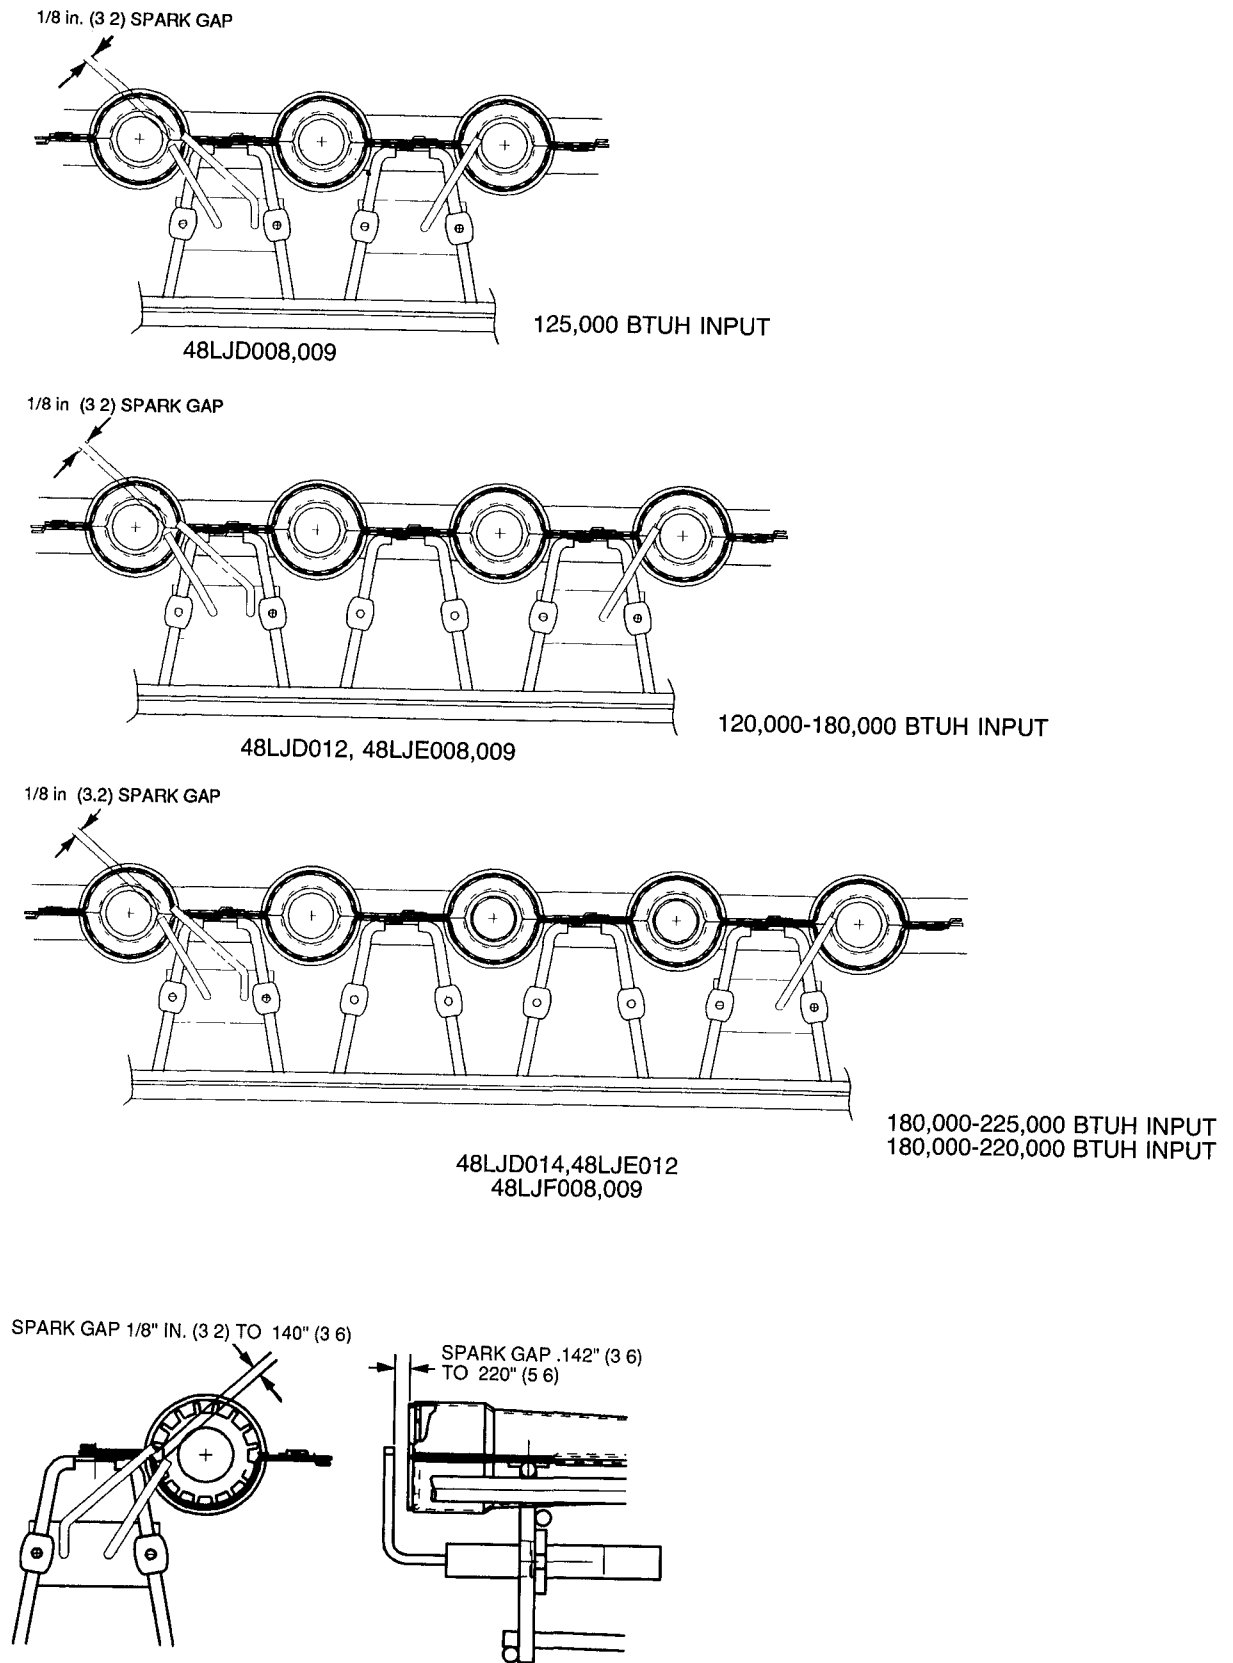

Fig. 40 — Spark Gap Adjustment
4. Adjust spark gap. See Fig. 40.